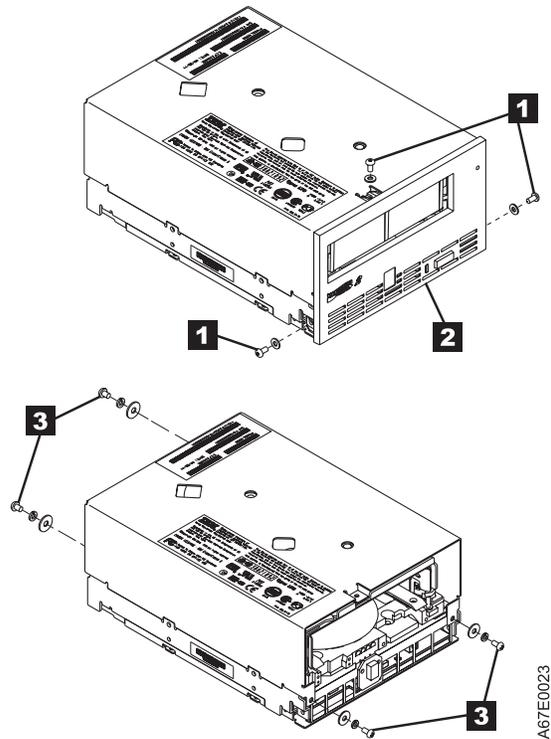

Figure 20. Removing the top cover of the drive
- a. Use an appropriate tool to remove the three screws and washers (see **1** in Figure 20 on page 62) that secure the bezel **2**. Remove the bezel.